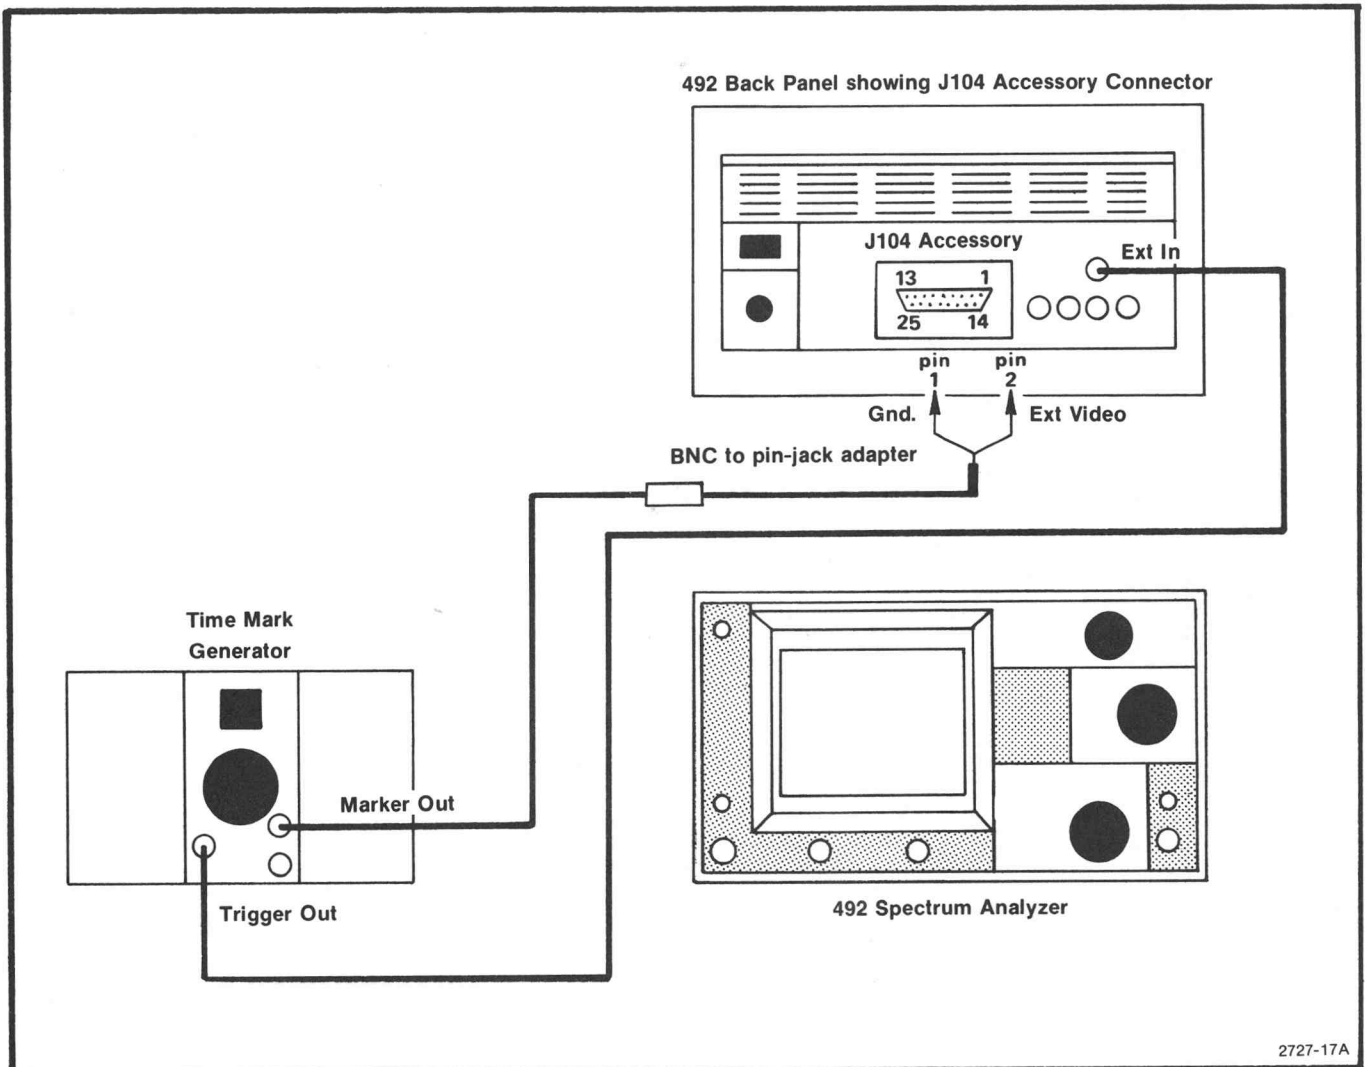

Fig. 3-28. Test equipment setup for calibrating sweep timing.
a. Turn the POWER off; remove and install the Sweep board on an extender, then switch the POWER on. Test equipment setup is shown in Fig. 3-28. Select EXT Triggering, TIME/DIV of 10 ms, and a FREQ SPAN/DIV of 10 MHz or less.
b. Apply 10 ms time marks from the time-mark generator to the EXT Video In (pin 2 and 1 of the ACCESSORIES jack, see Fig. 3-28) and the Trigger Output of the time-mark generator to the EXT TRIG input on the back panel of the 492. This should provide a display of 10ms markers.